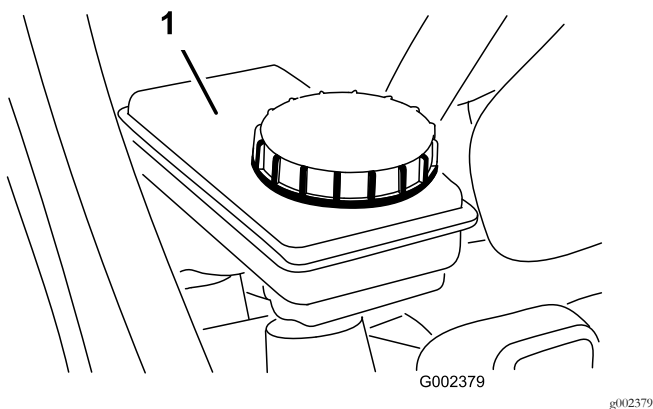

Figure 25
2. Ensure that the fluid level is up to the Full line on the reservoir (Figure 25).
3. If the fluid level is low, clean the area around the cap, remove the reservoir cap, and fill the reservoir to the proper level with the specified brake fluid (Figure 25).